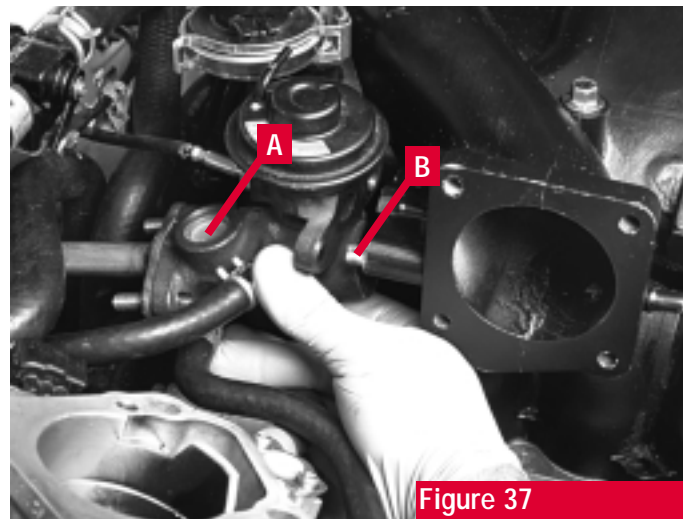

Figure 37
1. With the supercharger bolted to the engine, attach the EGR valve to the EGR pipe and hand tighten with the original nuts (see arrow A, figure 37).
2. Remove the EGR block-off plate from the two studs on the supercharger manifold and using these nuts and washers, install the EGR valve and gasket to the manifold and hand tighten (see arrow B, figure 37).